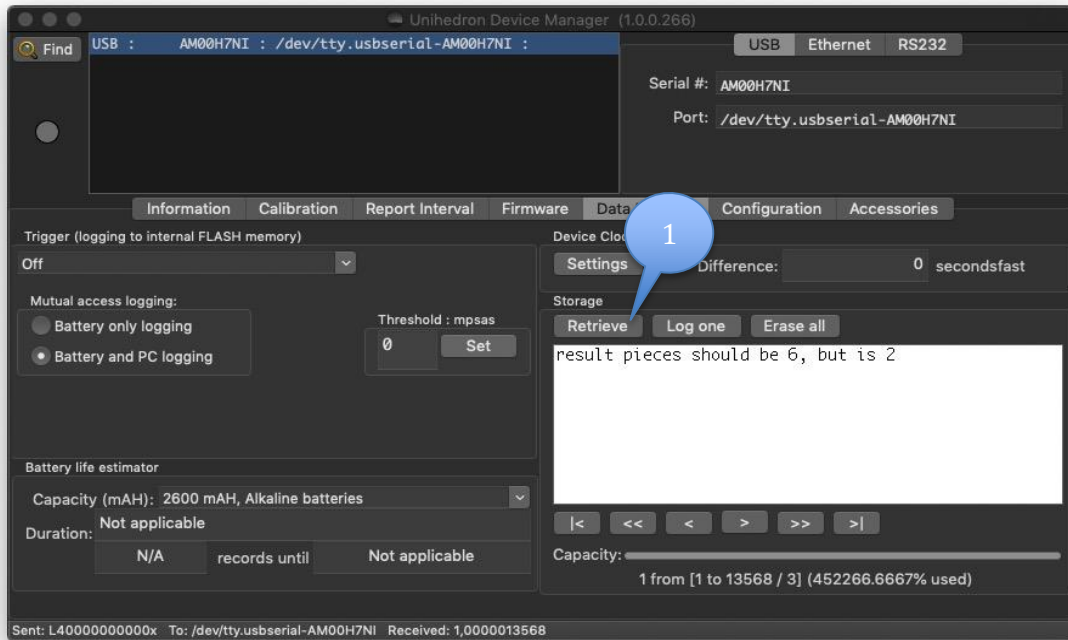

Figure 5: UDM main window with the Data Logging tab selected. Under Storage, click the Retrieve button to open the DL Retrieve window.
5. In the UDM main window (Figure 1), select the Data Logging tab (8) to display the data logging controls (Figure 5).